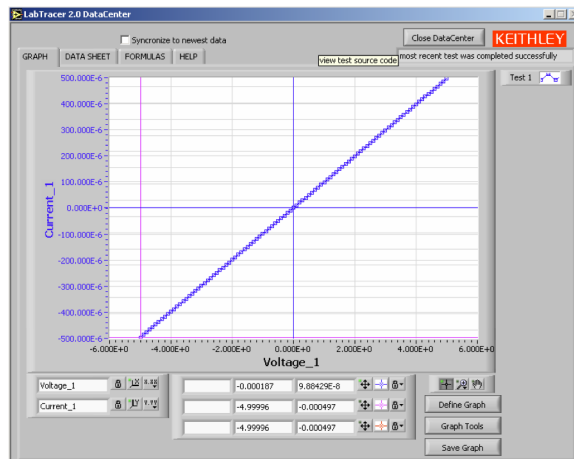

Fig. 9: LabTracer DataCenter Graph window, plotting Current_1 vs Voltage_1.
- (i) **Initiate Measurement and generate an I-V curve:** Click on the RUN TEST button and the measurement begins. The SMUs will be automatically configured, and you can watch the current and voltage values as they scan. When completed the Data Center window appears as shown in Figure 9. **However, there will be nothing plotted on your graph. Select the “Define Graph” button** and set your x and y axes to be Voltage_1 and Current_1. If the curve is linear then record the voltage and current values at each voltage extreme ($\pm 5V$) and calculate the slope of the line. **Note:** The raw data is viewed by clicking the DATA SHEET tab. Invert the slope you calculated for this I-V curve; what does this quantity represent? **Second Note:** if the SMUs didn't run, check your channel numbers in the set-up, then make sure all the GPIB cables are connected.
- (d) **Examine the logarithmic current versus voltage plot.** If you examine the raw data, you should notice that the LED current is increasing over many orders of magnitude as the diode enters its forward bias regime (+ voltages in our sweep). Accordingly it is often useful to plot these characteristics on a logarithmic current scale. You will be asked to do this in the analysis. This graph can also be produced using this software. We must first define an absolute value of diode current - you can't take the log of a negative number (why is there a negative region? Think about the previous section's results). This is done in the formula screen as before. Before you rerun your test, delete the f_{div} formula from earlier, as once it errors, your new formula will not be calculated. Once you have a variable for the absolute value of current, repeat the measurement and plot the absolute value of diode current versus diode voltage on the graph. Now if you look in the lower left hand corner of the graph screen, your plotted variables are listed. To make a logarithmic plot of the absolute value of current, strike the Y.YY key, click the Mapping Mode tab and select logarithmic (see Figure 9). A $\log I$ vs. V curve should appear. In the section of the curve where the LED is on, there should be a linear portion of the characteristic (as in forward bias the current increases exponentially with voltage). At some large forward bias we can see a sub-linear $\log I$ vs. V curve as the diodes series resistance starts to become dominant.